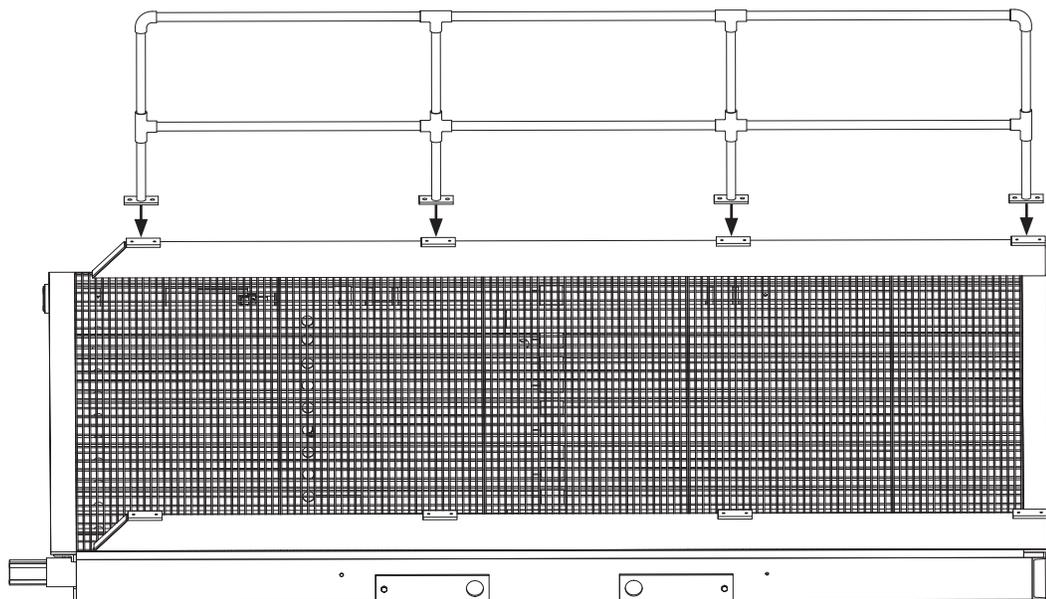

Figure 13
5. Install handrails onto the runoff guard plates using the provided hardware as shown in Figure 13.